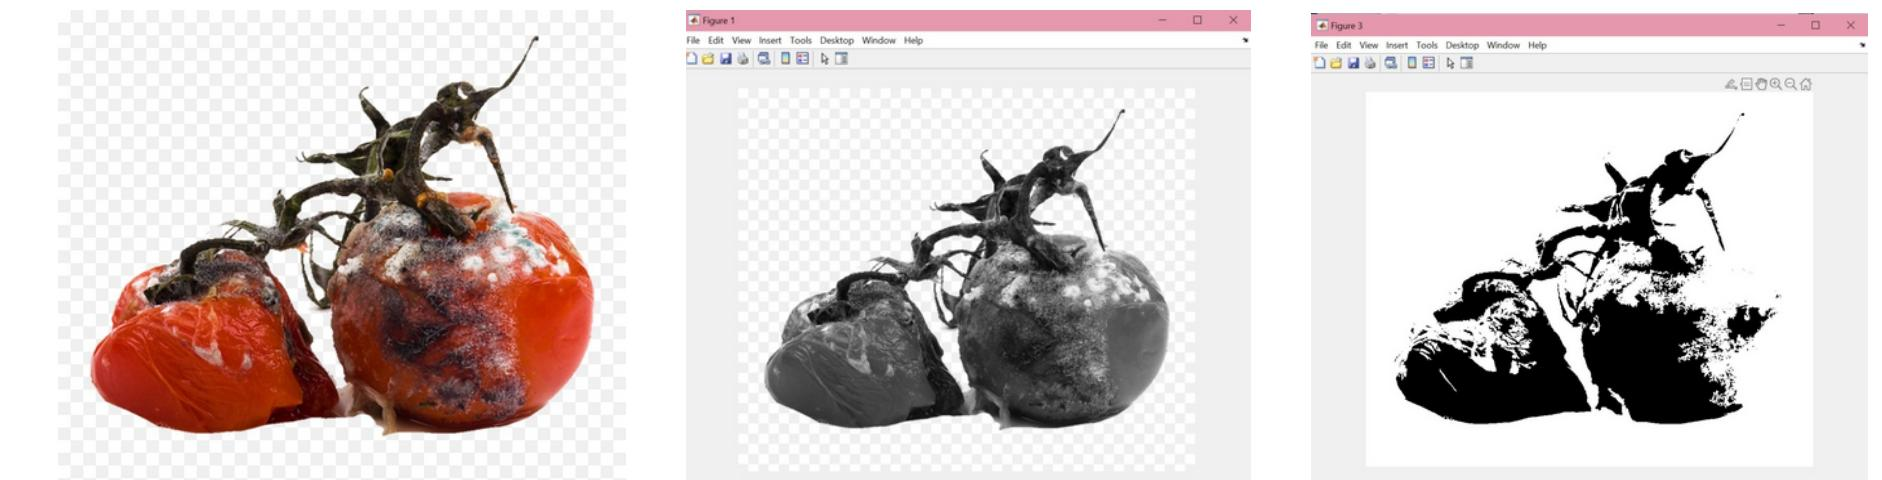
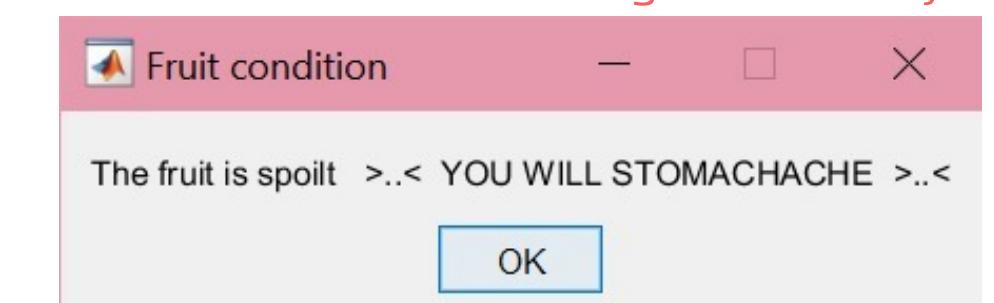

Figure 2: The original image (left), the image in grayscale (middle) and the image in binary
Figure 3: Message displayed to tell user the condition of fruit
- Figure 2 shows the original image (left), the image converted into grayscale (middle) and the binarized form of the image (right). The reason the image needs to be converted into grayscale is so that the histogram could detect the difference in pixel intensity easily. The image is then binarized in order to enhance the difference in hues of the image. This helps ease the detection of spoilt fruit areas on the fruit. If there is a higher area of spoilage (dark area) detected on the fruit, the code will denote the fruit as spoilt as shown in the message box in Figure 3.